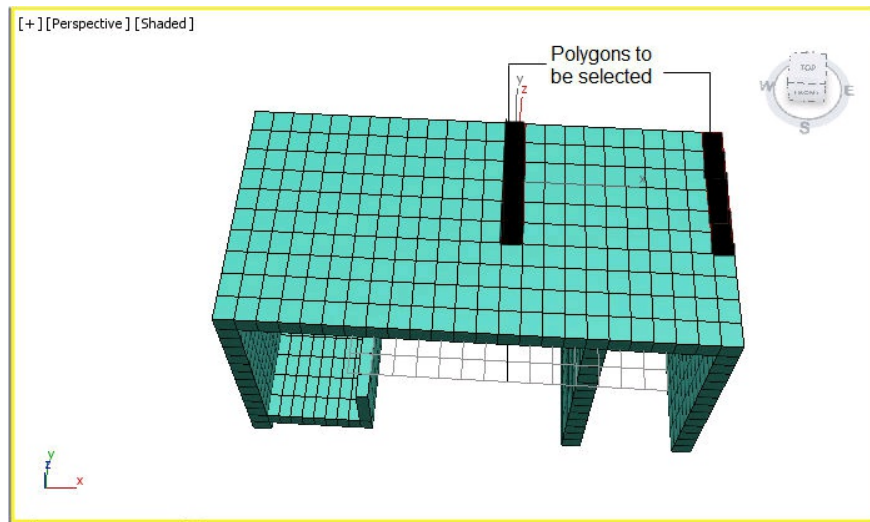

Figure 9-73 Selected polygons of computer table
1. Select the polygons from the top of *computer table*, as shown in Figure 9-73.